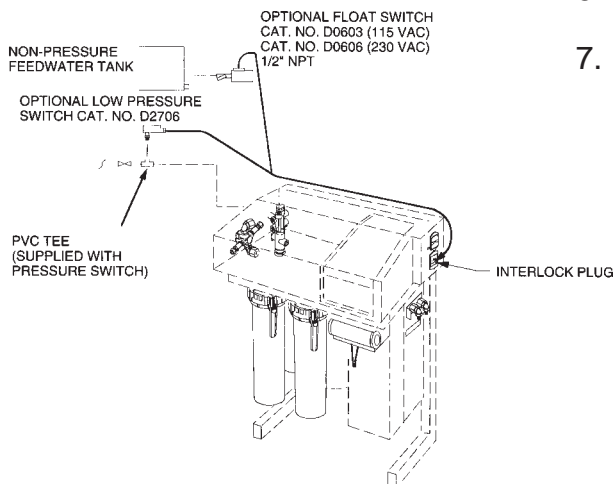

Figure 11 Pump Protector/Pressure Switch Installation
3. If using the D2706 low pressure switch, install the PVC tee (supplied with D2706) into the incoming water line (see Figure 11). Screw the switch into the top of the tee, then connect the inlet tubing to NANOpure with the remaining opening.
4. Route the cable from float or low pressure switch either above or below NANOpure cover as shown in Figure 11.